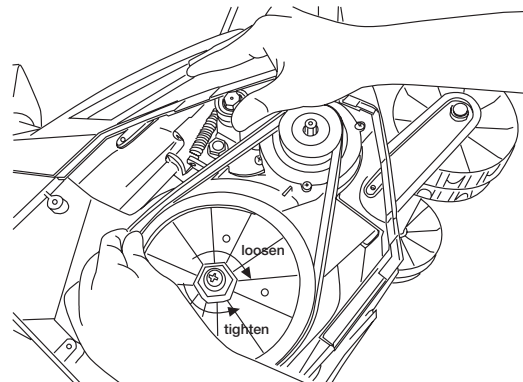

Figure 28
- Lift the belt tension and roll the worn belt off the big pulley from upside (Fig. 28).
**Note:** To replace the pulley, remove the outer nut, the left handed nut in the opposite direction (clockwise to loosen and counterclockwise to tighten) (Fig.28).